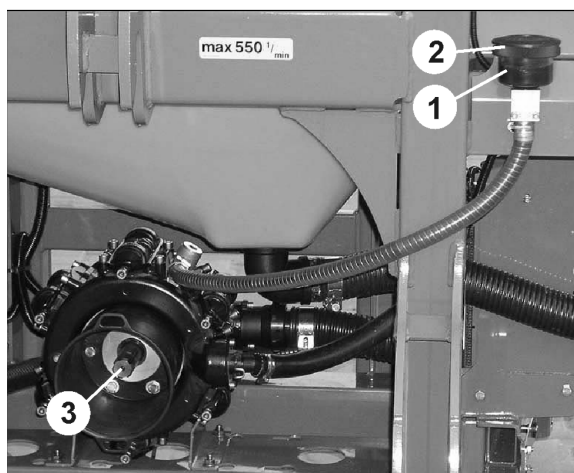

Fig. 139
1. Check whether the oil level is visible at the mark (1) with the pump not running and standing on a flat surface.
3. If the oil level is not visible at the mark (Fig. 139/1), remove the lid (Fig. 139/2) and top up with oil.